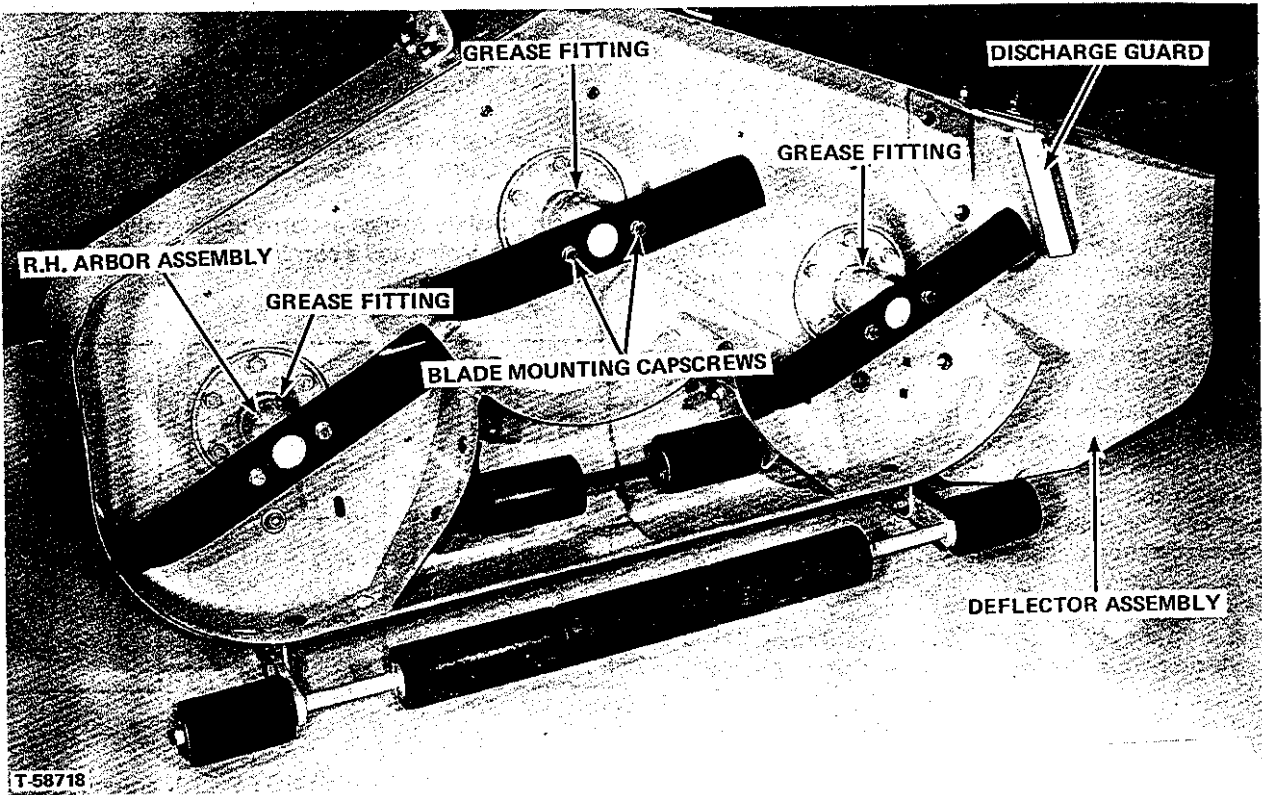

Figure 14.
1. See Figure 14. The grease fittings in each of the arbor assemblies, should be given about five shots of No. 2 lithium base gum grease every 50 hours of operation and at the end of cutting season.
BLADE REPLACEMENT (See Figure 14)